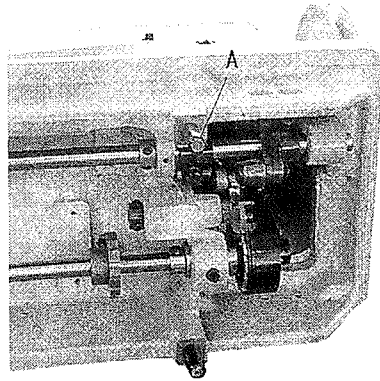

Fig.1
3. SETTING UP THE MACHINE (Fig. 1)